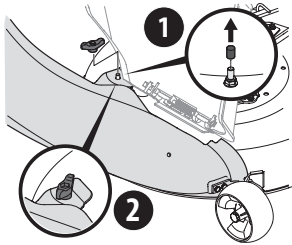

Figure 18
2. Secure the boot to the deck using a wing knob (720-04122) from hardware pack 689-00636. See Figure 18.
**NOTE:** If present, remove the protective cap off of the mounting stud on the mowing deck as shown in the upper inset of Figure 18.